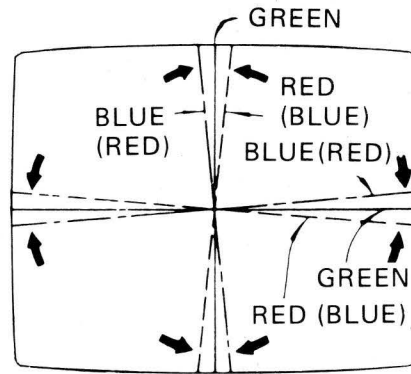

Figure 17. Dynamic Convergence A
11. Dynamic Convergence (Figs. 17–19)
3. Tilt the deflection yoke up and down. Insert tilt adjustment wedges ① and ② between the deflection yoke and the CRT until the misconvergence illustrated in Figure 17 has been corrected.